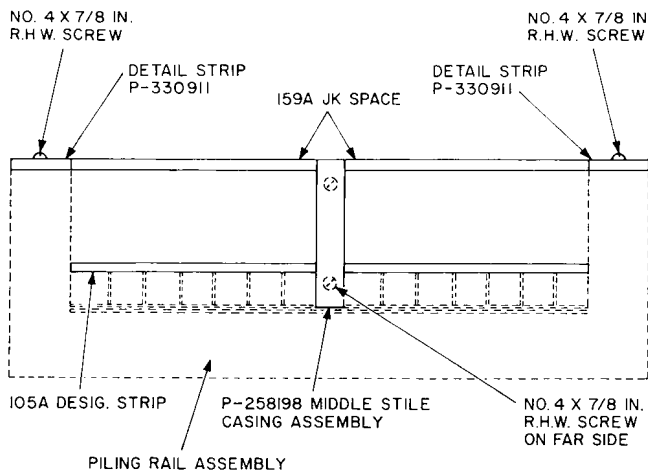

Fig. 4—Jack Field Modification Detail
- (d) **When a second position is added to an existing position**, if the existing position is one of the earlier design (trunk designation strip located on the stile below the jack field) and the position being added is one of the later designs, it will be necessary to replace or modify the existing position. To modify the position in the field the items shown in Fig. 4 and a new roof section will be required.